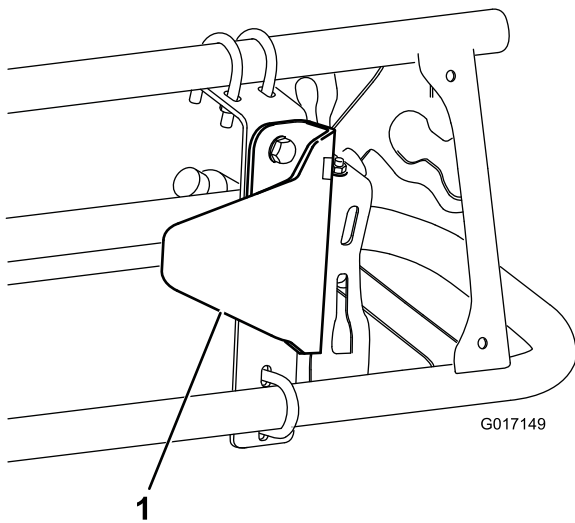

Figure 17
2. Install the sensor guard bracket onto the mounting bracket with 2 bolts (5/16 x 3/4 inch) and 2 flange nuts (5/16 inch) as shown in Figure 17.